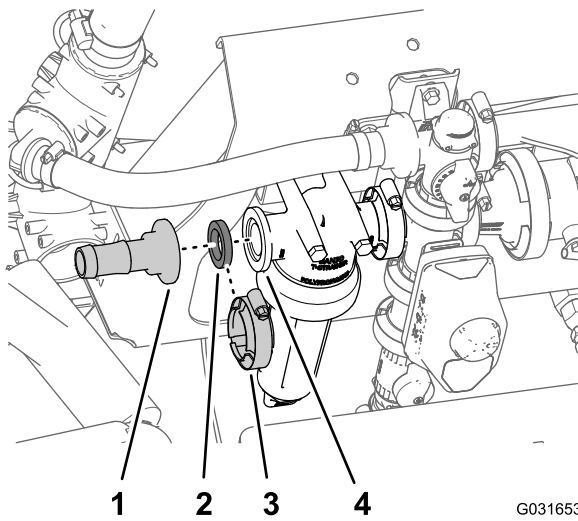

Figure 221
- Remove the flange clamp that secures the straight-barbed fitting and gasket to the flange of the filter head and remove the fitting (Figure 221).